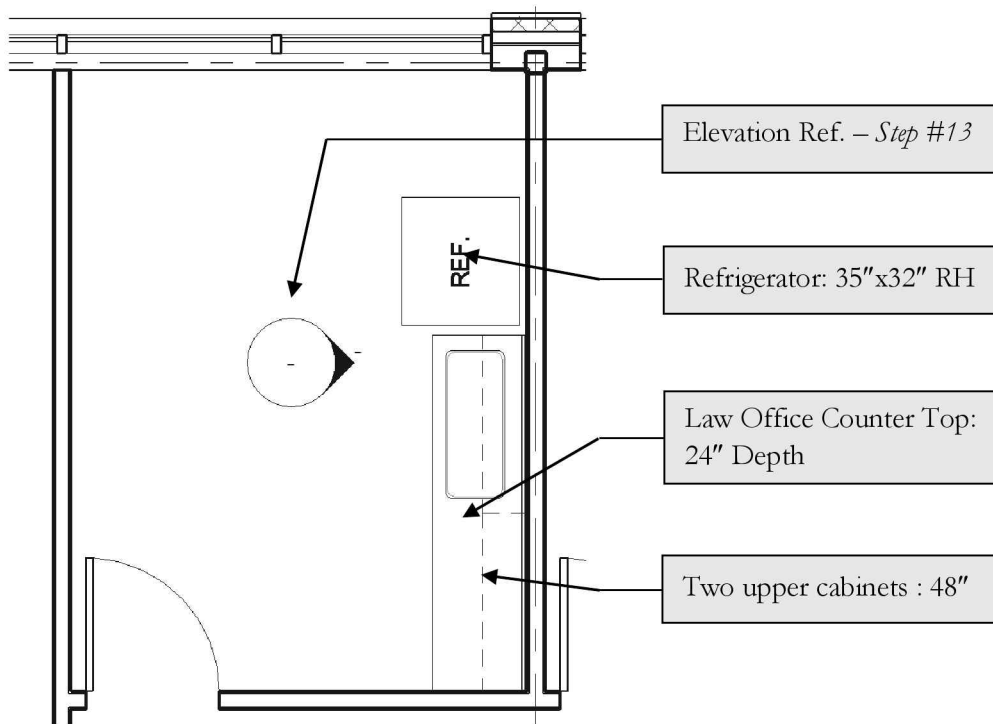

FIGURE 11-2.4 Break room plan view
7. Add the four items as shown in Figure 11-2.4.
13. Add an interior elevation tag to set up the interior elevation view (Figure 11-2.4).